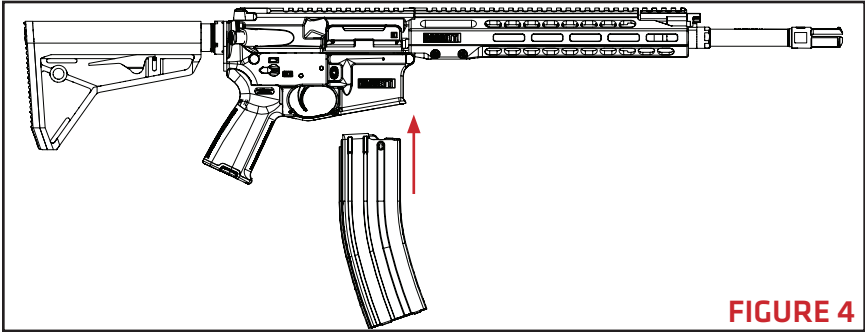

FIGURE 4
2. Insert a loaded magazine fully into the magazine well until the catch engages and holds the magazine in place (**FIGURE 4**). Tap the magazine upward to ensure the magazine is fully seated, then pull down on the magazine to ensure proper retention.